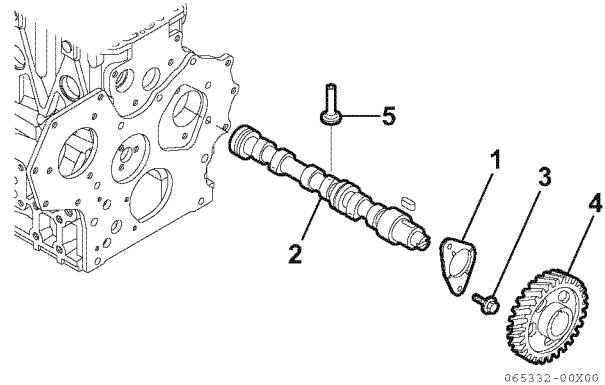

Figure 6-49
2. Remove the two bolts (3, **Figure 6-49**) retaining the camshaft thrust plate (1, **Figure 6-49**).
3. Rotate the engine in the engine stand so that gravity causes the tappets (5, **Figure 6-49**) to drop away from the camshaft lobes.
4. Slowly pull the camshaft (2, **Figure 6-49**) assembly out of the engine being careful not to damage the front camshaft bushing.
6. Remove the camshaft drive gear (4, **Figure 6-49**) only if the gear or camshaft require replacement. Use a knife-edge puller and a press to remove the gear. The gear is a shrink-fit and will need to be heated to 356 - 392 °F (180 - 200 °C) to remove.